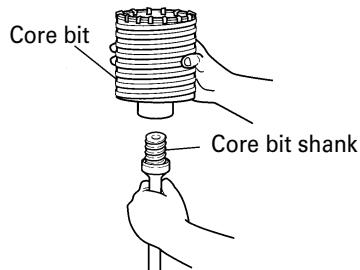

Fig. 11
- (1) Mount the core bit to the core bit shank. (Fig. 11) Lubricate the thread of the core bit shank to facilitate disassembly.